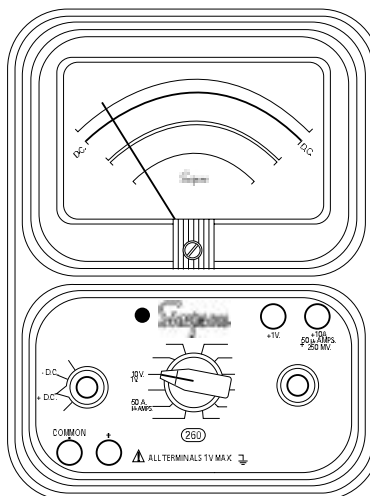

Figure 4-1. Jacks and Switch Positions for Measuring DC Voltages, 0 through 1V Ranges
- Set the function switch at +DC (Figure 4-1).